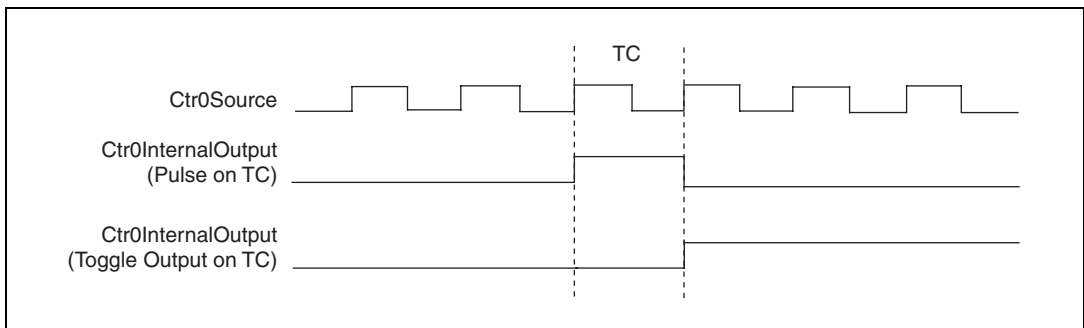

Figure 5-5. Ctr0InternalOutput Signal Behavior
The Counter 0 Internal Output (Ctr0InternalOutput) signal is the output of Counter 0. This signal reflects the terminal count (TC) of Counter 0. The counter generates a terminal count when its count value rolls over. The two software-selectable output options are pulse on TC and toggle output polarity on TC. The output polarity is software-selectable for both options. Figure 5-5 shows the behavior of the Ctr0InternalOutput signal.